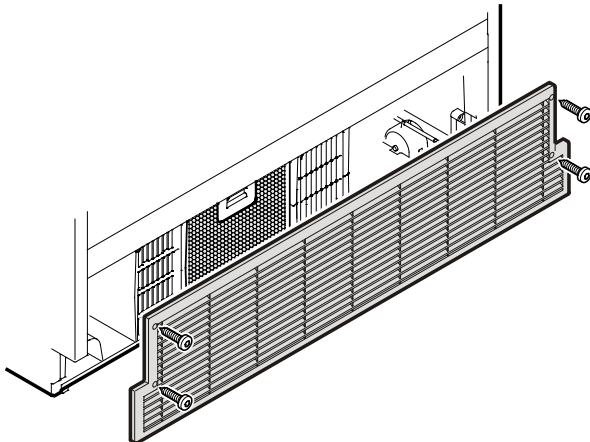

Figure 20
3. Mount the ventilation grille as shown in **Figure 20**.